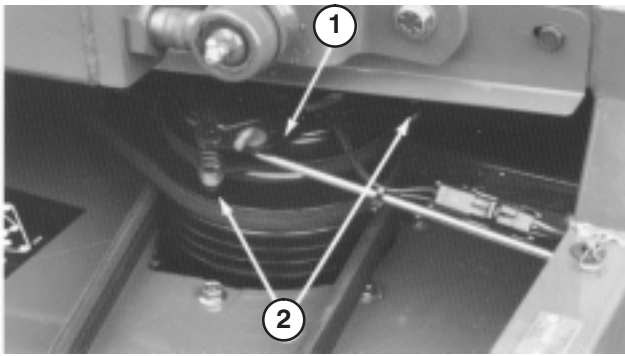

Figure 76
1. To adjust clutch, tighten or loosen locknuts on flange studs (Fig. 76).